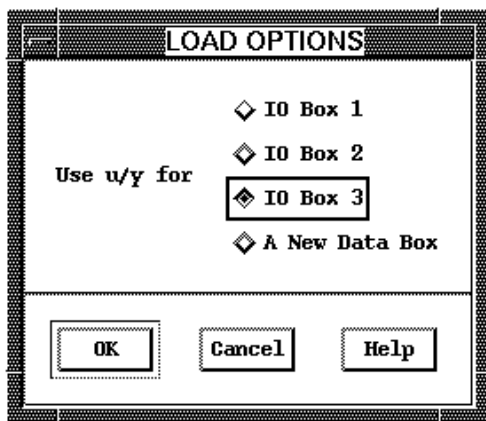

Figure 3.2 The “LOAD OPTIONS” window. You can either redirect the loaded variable to an existing data box or open a new data box with the variable.
- When there is already a data box of the type you are loading present in the chain, the “LOAD OPTIONS” window pops up (see Figure 3.2). This window allows you to either redirect the loaded data to one of the existing data boxes or open a new data box.